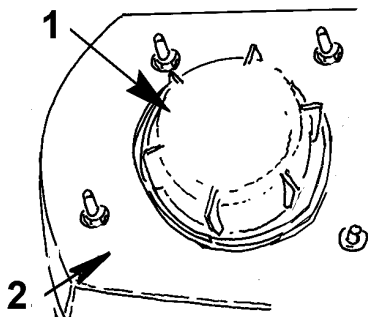

Figure 56 Directional Light Assembly
2. Locate the outboard socket cover (Figure 56, Item 1), this will be the directional socket on each side of the chassis.